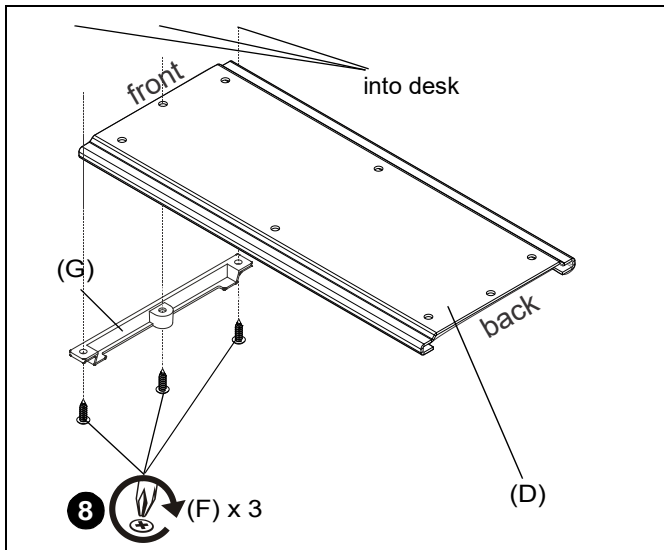

Figure 6
8. Use three #8 x 5/8" wood screws (F) to secure track guard (G) to under-desk track (D) and desk. (See Figure 6)